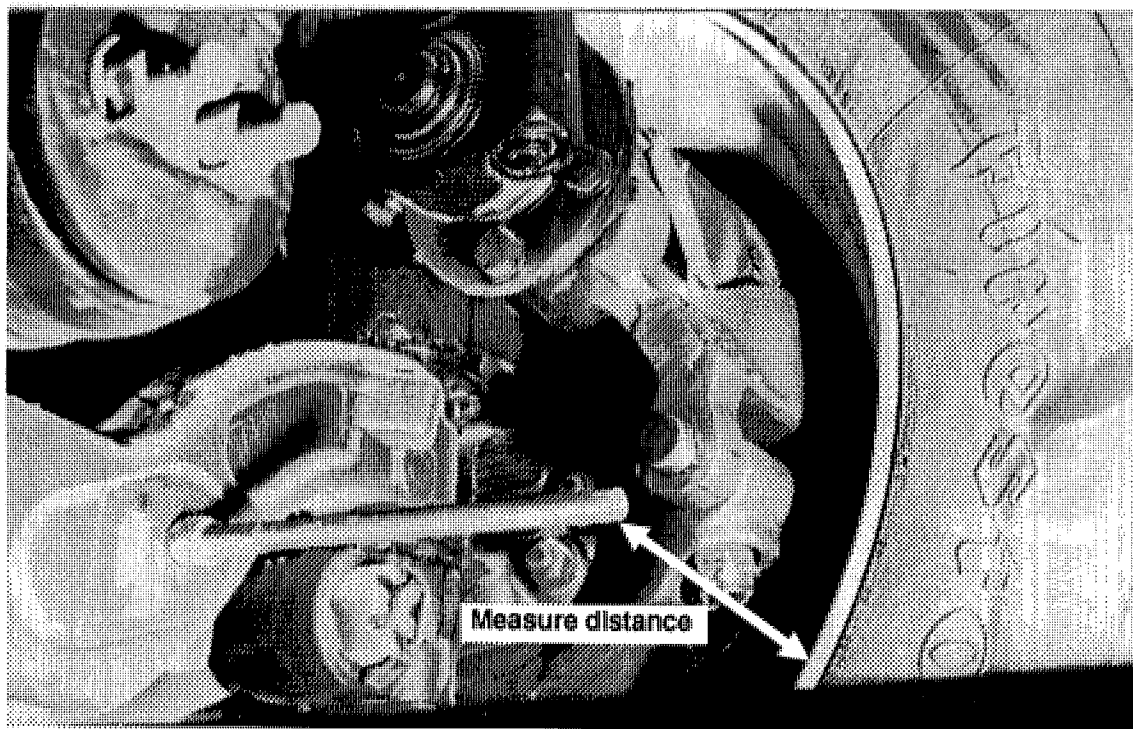

FIG. 3 - Pin Installation on axle
6. Position wheels perpendicular to axle by placing pins on axle (see figure 3); measure the distance between pin and rim on each side. The distance should be the same on each side. If not, adjust distance by pushing inside or outside of tires as required. For example, if the distance on one side is 7 1/4" and is equal to 7" on the other side, the final reading should be 7 1/8" on each side.